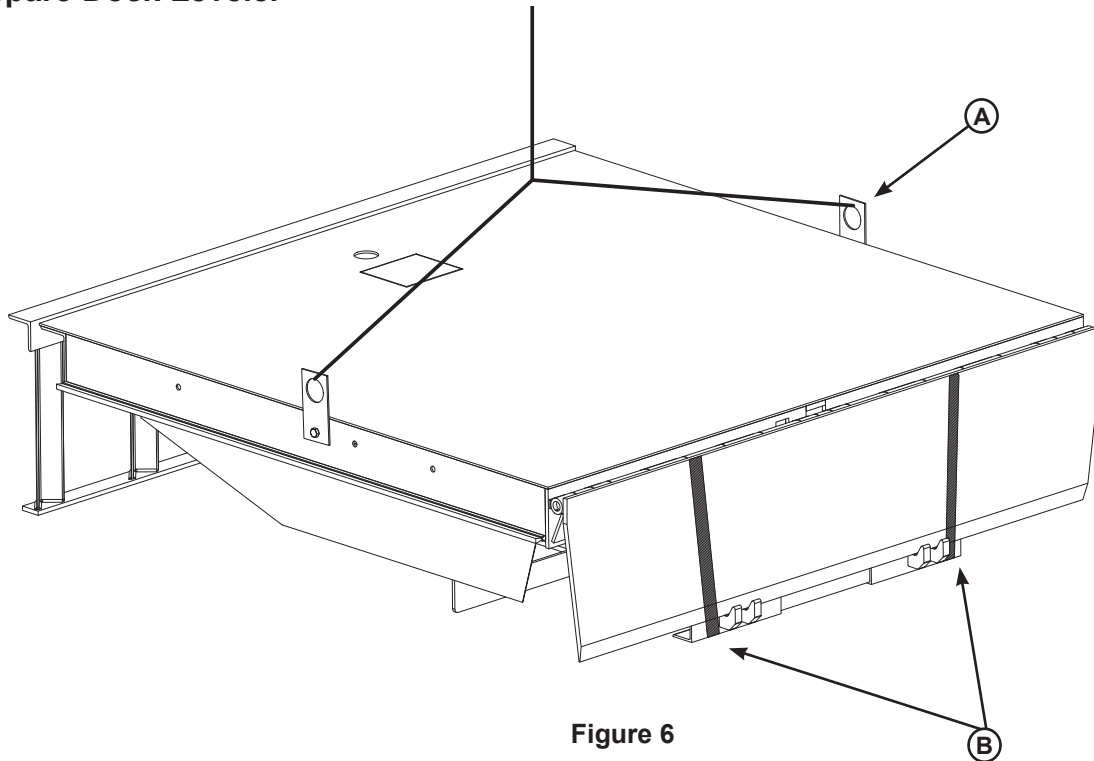

Figure 6
McGuire dock levelers are shipped with lifting brackets (A) fastened to the platform side joists, and shipping bands (B) around the platform lip and leveler frame (see Figure 6).